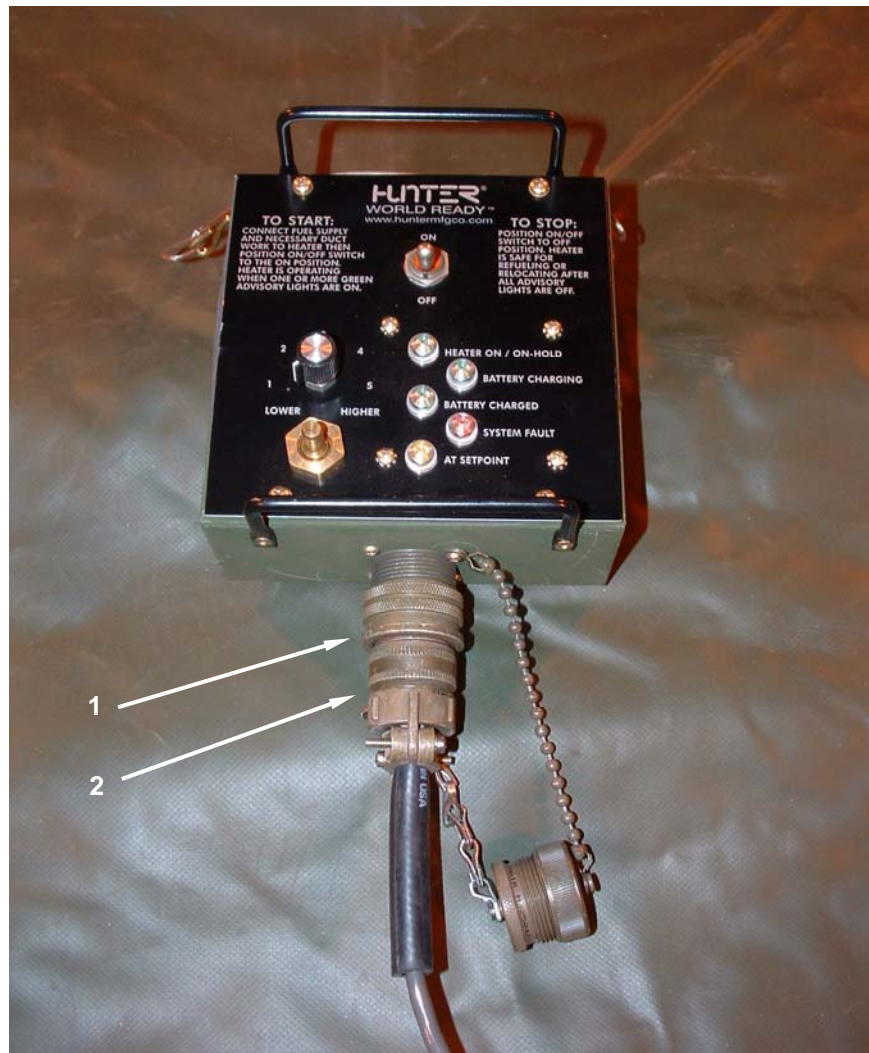

Figure 14. Connect In-Tent Controller Assembly.
1. Make sure the in-tent controller assembly connector (**Figure 14, Item 1**) and the in-tent controller assembly cable connectors (**Figure 14, Item 2**) are clean and are not damaged.
2. Connect the cable connector (**Figure 14, Item 2**) to the in-tent controller assembly (**Figure 14, Item 1**). Remember that the two connectors are “keyed” together and will only fit together one way. Tighten connector securely.